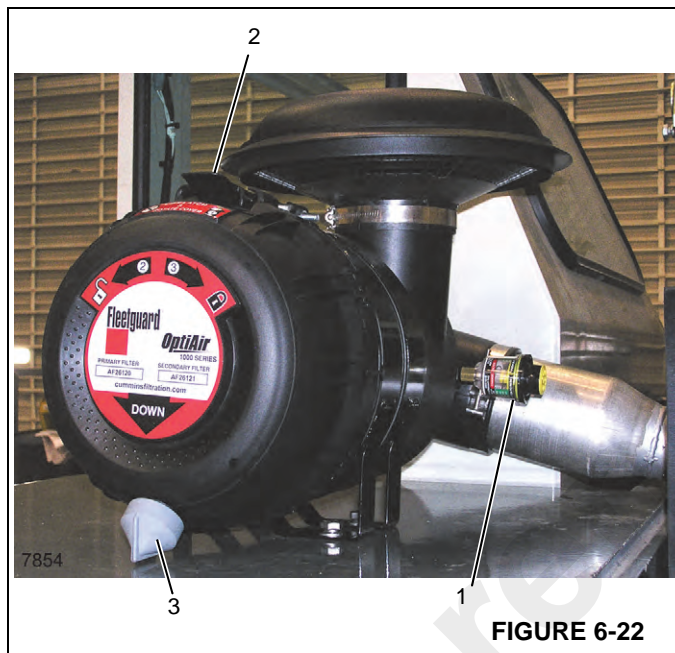

FIGURE 6-22
The air cleaner is equipped with a filter restriction indicator (1) (Figure 6-22). The air cleaner element needs to be replaced when the indicator is in the red.
5. Reset the air cleaner restriction indicator by pushing in the reset button (Figure 6-22).
Squeeze the dust cup (3) (Figure 6-22) to remove any accumulation of dust or debris.